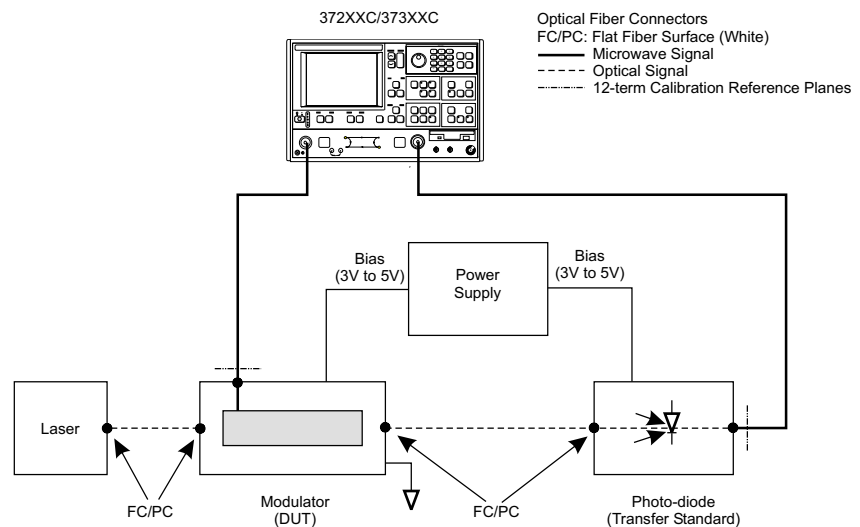

Figure 8-32. *E/O Measurement Setup*
Optical modulators modulate digital data signals over a light wave carrier and send it over fiber optic networks. Since a VNA is only capable of generating and measuring electrical signals, a laser source is required to provide optical input to the modulator DUT and a photo-diode/photo-receiver is required to convert the modulator output back to an electrical signal that can be measured by the VNA. The MN4765A (65 GHz characterized photo-diode) is used with the following procedure. The equipment set up for an E/O measurement is shown in Figure 8-32, below.
- Step 1.** Set-up the measurement as shown in Figure 8-32.